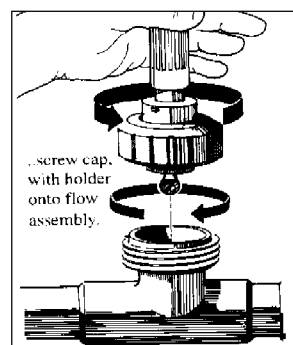

FIGURE 7
8. Gently install sensor into sensor housing on flow assembly. Make sure sensor is firmly seated in housing. (Figure 7)